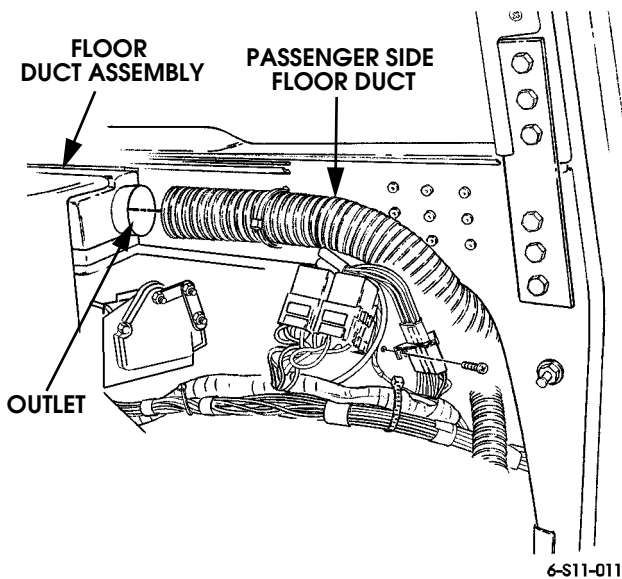

Figure 11-35: Passenger Floor Duct
2. Remove passenger side floor duct hose from floor duct assembly (Figure 11-35).
1. Route duct from blower housing to main A/C - heat unit floor duct and secure with two screws (Figure 11-35).